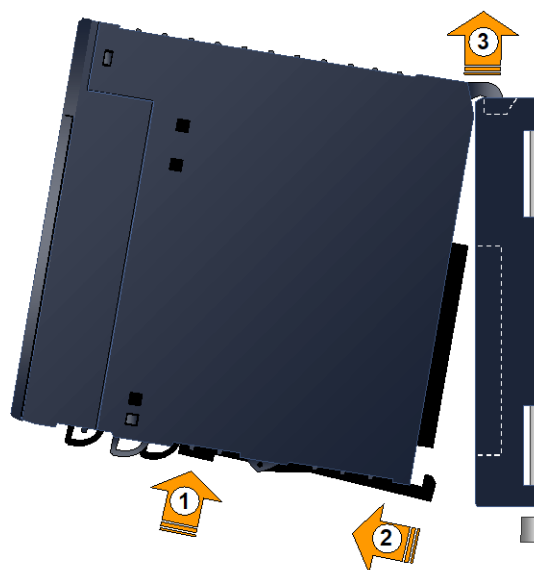

Figure 25: Removing Module from Backplane
- Locate the release lever(s) at the bottom of Module (Figure 25) and firmly press upward (1), toward Module. Wider modules have two release levers that must both be pressed up at the same time.
- While holding Module firmly and fully depressing the release lever(s), pivot Module upward until its connector is out of the backplane (2).